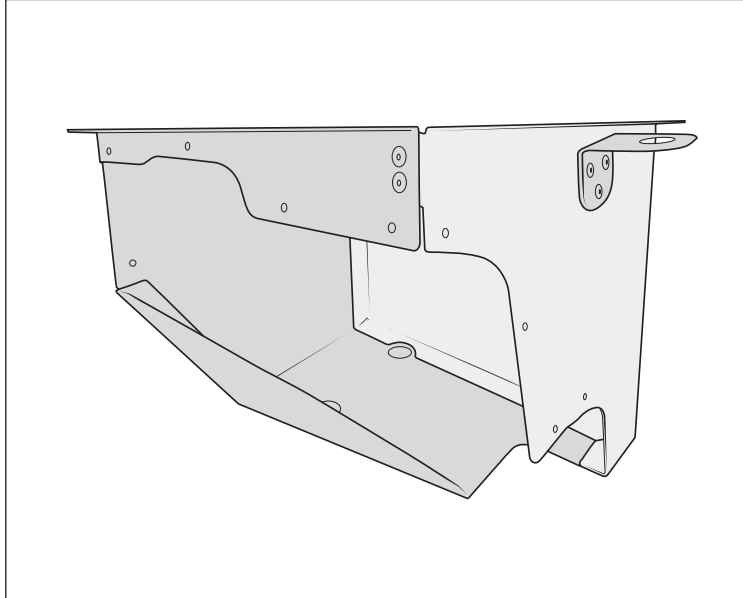

Figure 9
1. Assemble the lower airbox using the supplied 5/32" x 1/4" rivets. Sensor Safe RTV can be used between the panels (fig. 9).
2. Install the forward mounting tab onto the airbox using the supplied rivets (fig. 9).